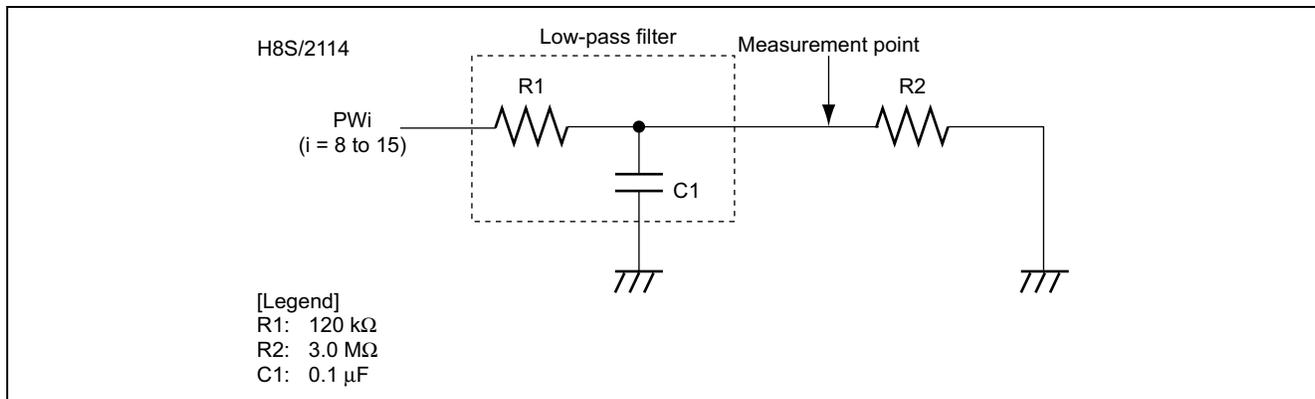

Figure 1 Example Circuit for Use as a D/A Converter
- The 8-bit PWM module outputs a PWM signal from the PWi (i = 8 to 15) pin. By passing this PWM output signal through a low-pass filter (RC network) as shown in figure 1, an analog output (D/A-converted signal) is produced. In this sample task, we use the output on the PW8 pin.
2. Values of R1, R2, and C1 in figure 1: